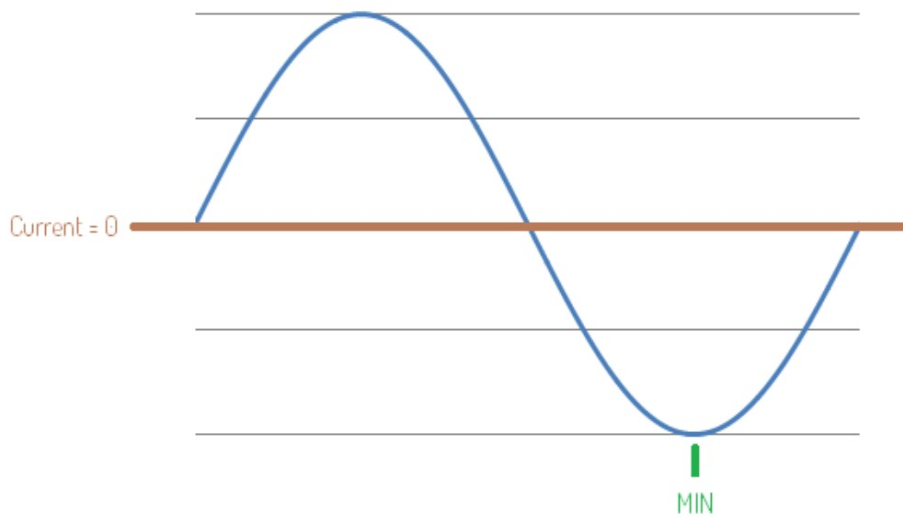

Figure 89. Trigger out event - signal minimum.
- MIN (minimum) – A signal reached its minimum (only applicable to tACS) (Figure 89)